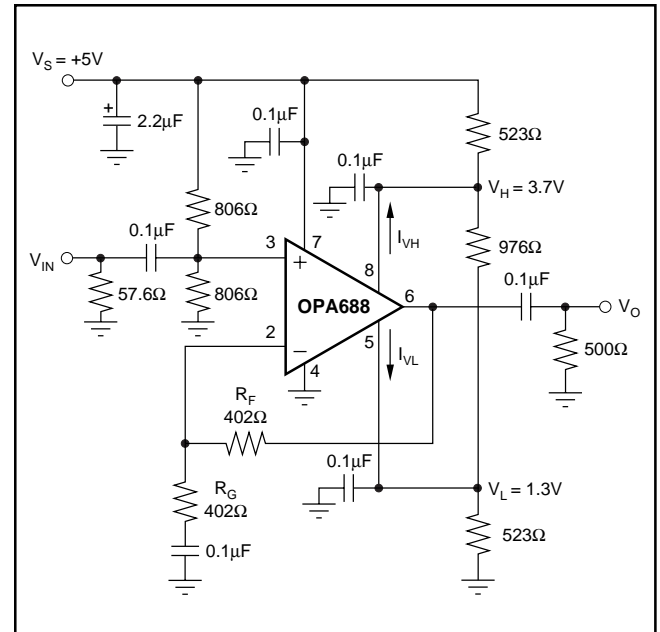

FIGURE 2. AC-Coupled, Single Supply Amplifier.
$G = +2$ ,  $R_L = 500\Omega$  tied to  $V_{CM} = 2.5V$ ,  $R_F = 402\Omega$ ,  $V_L = -1.2V$ ,  $V_H = +1.2V$  (Figure 2 for AC performance only), unless otherwise noted.
NOTES: (1) Junction Temperature = Ambient Temperature for low temperature limit and 25°C guaranteed specifications. Junction Temperature = Ambient Temperature + 23°C at high temperature limit guaranteed specifications. (2) TEST LEVELS: (A) 100% tested at 25°C. Over temperature limits by characterization and simulation. (B) Limits set by characterization and simulation. (C) Typical value for information only. (3) Current is considered positive out of node. (4) CMIR tested as < 3dB degradation from minimum CMRR at specified limits. (5)  $I_{VH}$  ( $V_H$  bias current) is negative, and  $I_{VL}$  ( $V_L$  bias current) is positive, under these conditions. See Note 3, Figures 2, and Figure 8. (6) Limiter feedthrough is the ratio of the output magnitude to the sinewave added to  $V_H$  (or  $V_L$ ) when  $V_{IN} = 0$ . (7)  $V_H$  slew rate conditions are:  $V_{IN} = V_{CM} + 0.4V$ ,  $G = +2$ ,  $V_L = V_{CM} - 1.2V$ ,  $V_H =$  step between  $V_{CM} + 1.2V$  and  $V_{CM}$ .  $V_L$  slew rate conditions are similar. (8) Linearity Guardband is defined for an output sinusoid ( $f = 5MHz$ ,  $V_O = V_{CM} \pm 1V_{p-p}$ ) centered between the limiter levels ( $V_H$  and  $V_L$ ). It is the difference between the limiter level and the peak output voltage where SFDR decreases by 3dB (see Figure 9).
$G = +2$ ,  $R_F = 402\Omega$ ,  $R_L = 500\Omega$  tied to  $V_{CM} = 2.5V$ ,  $V_L = V_{CM} - 1.2V$ ,  $V_H = V_{CM} + 1.2V$ , (Figure 2 for AC performance only), unless otherwise noted.
Figure 2 shows an AC-coupled, non-inverting gain amplifier for single +5V supply operation. This circuit was used for AC characterization of the OPA688, with a 50Ω source, and a 500Ω load.
The OPA688 is nominally specified for operation using either  $\pm 5\text{V}$  supplies or a single  $+5\text{V}$  supply. The maximum specified total supply voltage of  $12\text{V}$  allows reasonable tolerances on the supplies. Higher supply voltages can break down internal junctions, possibly leading to catastrophic failure. Single-supply operation is possible as long as common mode voltage constraints are observed. The common mode input and output voltage specifications can be interpreted as a required headroom to the supply voltage. Observing this input and output headroom requirement will allow design of non-standard or single-supply operation circuits. Figure 2 shows one approach to single-supply operation.
When the limiter voltages need to be within  $2.1\text{V}$  of the supplies ( $V_L \leq -V_S + 2.1\text{V}$  or  $V_H \geq +V_S - 2.1\text{V}$ ), consider using low impedance buffers to set  $V_H$  and  $V_L$  to minimize errors due to bias current uncertainty. This will typically be the case for single supply operation ( $V_S = +5\text{V}$ ). Figure 2 runs  $2.5\text{mA}$  through the resistive divider that sets  $V_H$  and  $V_L$ . This keeps errors due to  $I_{V_H}$  and  $I_{V_L} < \pm 1\%$  of the target limit voltages.